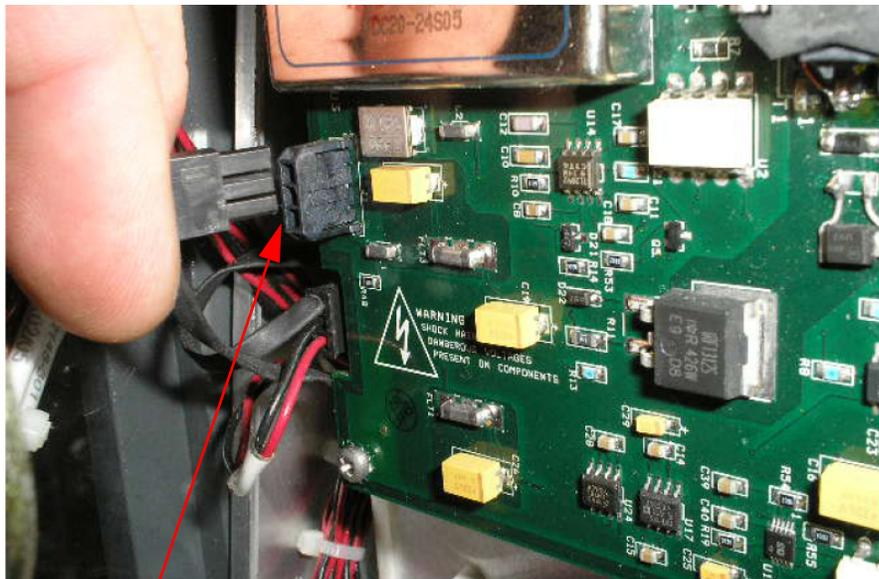

Figure 1-9 Ion Source Board Connection - Bottom
11. Disconnect the 24 VDC power on the lower left hand side of the Ion Source board by squeezing the connector from the left and right simultaneously. Take care when pulling the connector not to stress (break) the ground screwed to the metal work next to the Ion Source board and Main board (Figure 1-9).